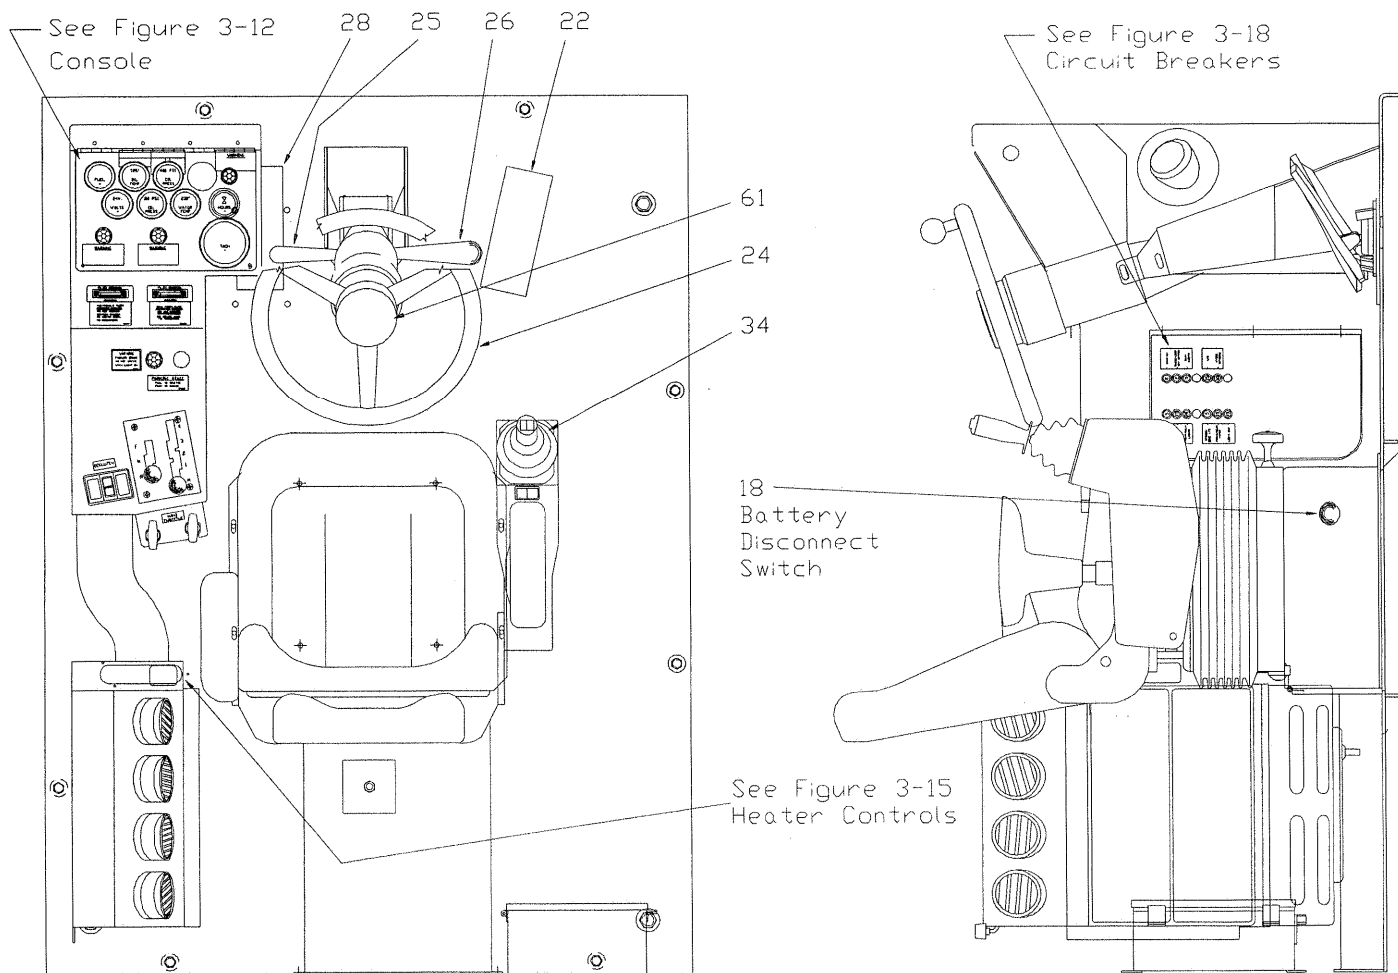

Fig. 3-1 Operator's Platform
**18. Battery Disconnect Switch** See Fig. 3-1 & 3-10
## 22. Accelerator Pedal See Fig. 3-1
24. **Steering Wheel and Column** See Fig. 3-1
25. **Turn Signal (Optional)** See Fig. 3-1
26. **Tilt Column Release Lever** See Fig. 3-1
29. **Low Engine Oil** see Fig. 3-1